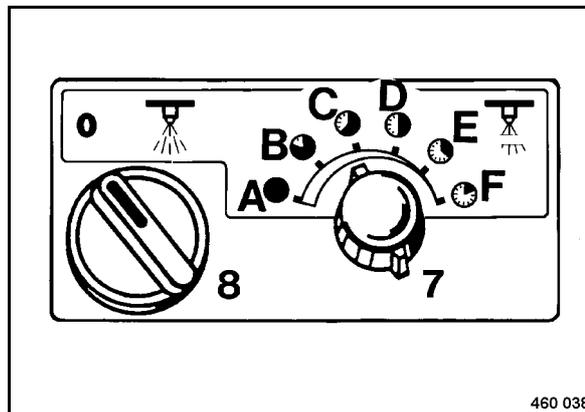

Fig. 61
- Rotary switch for sprinkling system 8 (Fig. 61)